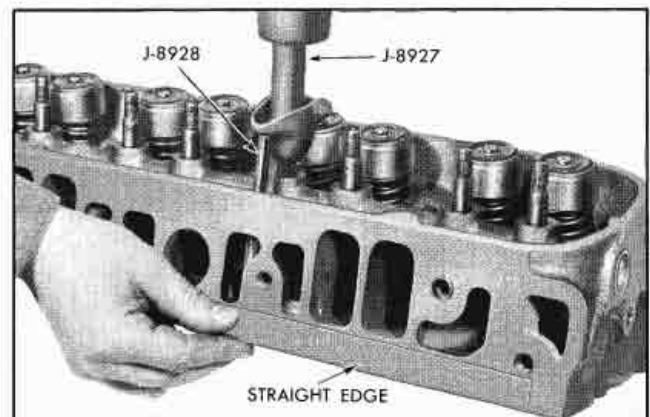

Fig. 6-33 Pressing in New Rocker Arm Stud
9. Coat rocker arm stud with white lead and oil and with cylinder head mounted in press on tool J-5712 so studs are vertical, position new stud with rocker arm and rocker arm stud installer over hole in head (Fig. 6-33).
11. Clamp straight edge on cylinder head as shown in Fig. 6-33 and position valve train gauge J-8928 in push rod hole so that it seats properly in the rocker arm.
12. With valve seated, slowly press rocker arm stud into cylinder head (Fig. 6-33) until gauge projects about midway between the end of the gauge and the step with respect to the straight edge as shown in Fig. 6-29.